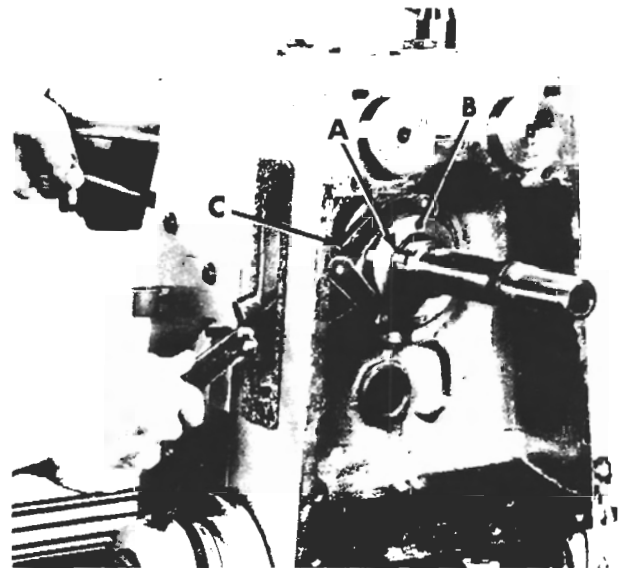

Figure 25
21. Remove spindle gear key (A, fig. 25).
22. Loosen set screw in thrust collar (B).
23. Holding spindle nose, use spanner wrench (C) to remove thrust collar. Remove brass plug from collar.